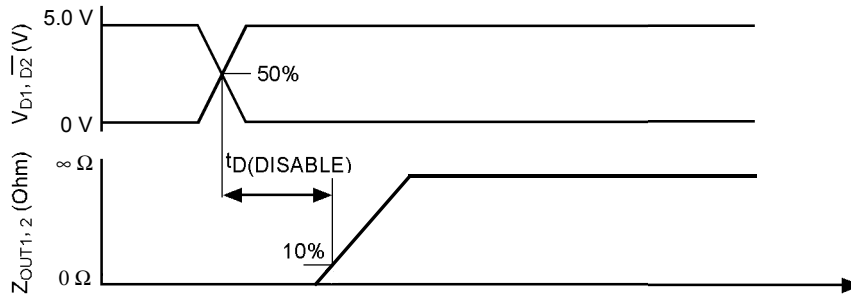

Figure 7. Disable Delay Time
30. Disable Delay Time is the time duration from the midpoint of the D (disable) input signal to 10% of the output tri-state response. See Figure 7, page 12.